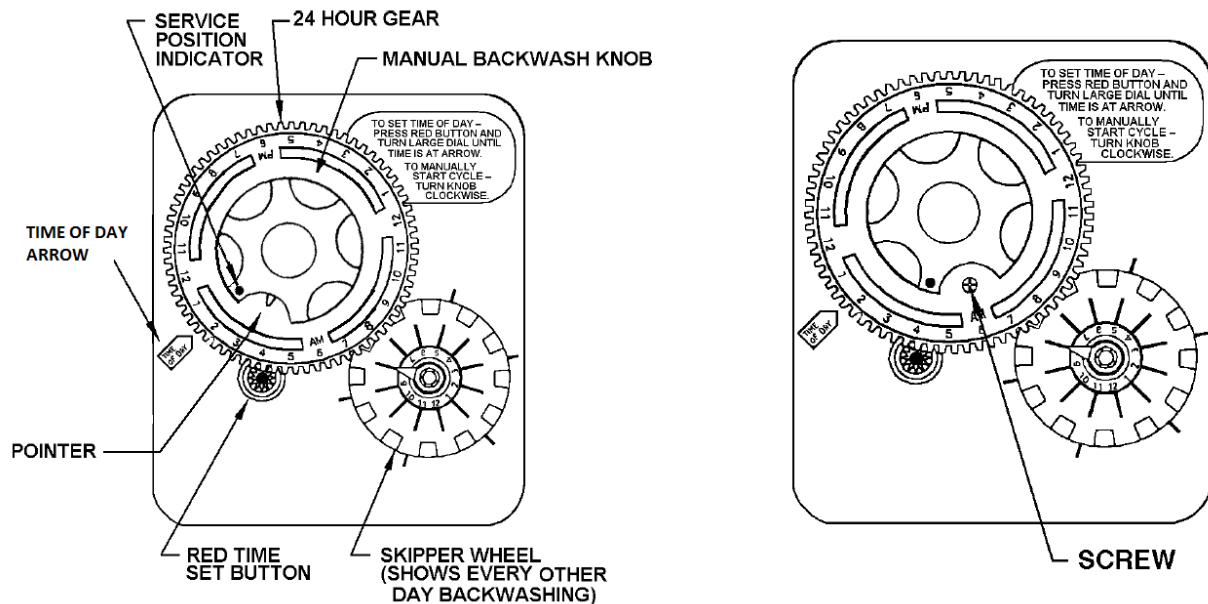
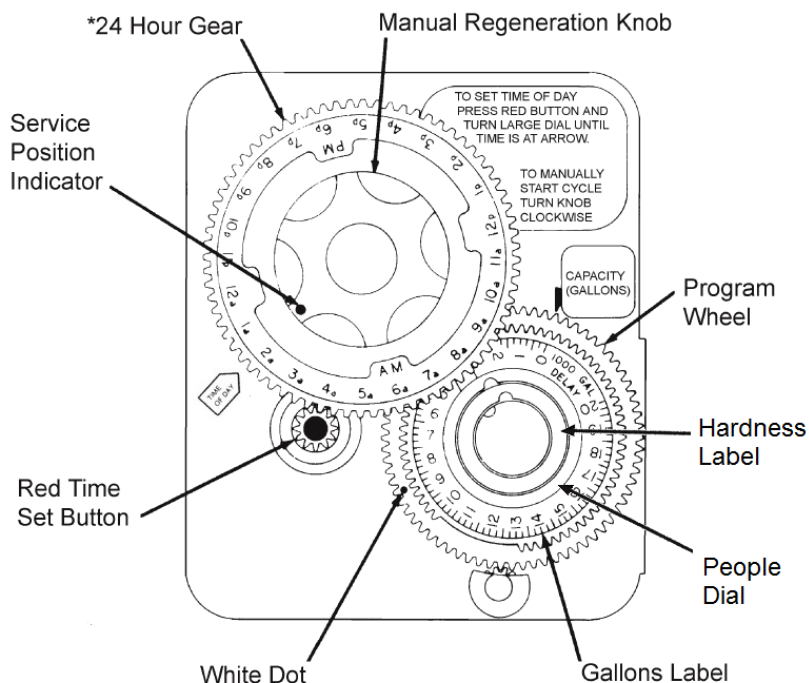

FIGURE 5: Front of Time Clock Timer Assembly
FIGURE 6: Front of Meter Timer Assembly
- STEP 10:** **For all models except FES Series**, plug the softener into an unswitched electrical outlet and slowly rotate the Manual Regeneration Knob (see Fig. 5, page 7 or Fig. 6, page 10) clockwise until two clicks are heard. This is the “BACKWASH” position.
- STEP 16:** Set the current time of day on the timer (note AM and PM) (refer to Fig. 5, Fig. 6 or Fig. 8, depending on the model number).
- STEP 17:** Set the regeneration frequency (refer to Fig. 5, Fig. 6, or Fig. 8 depending on the model number).